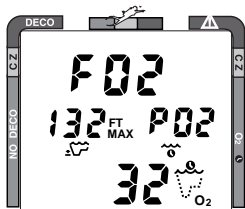

Fig. 46 - FO2 (Default OFF)
- If the FO2 Default was set OFF, the FO2 setting displayed will be the same value previously set (Fig. 46).